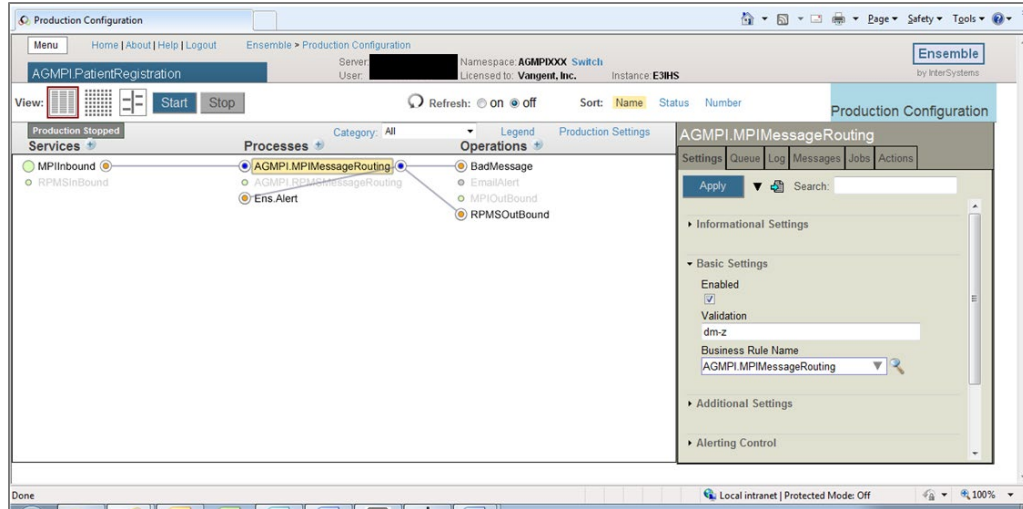

Figure 5-13: Graphic representation of the production instance on the **Production Configuration** page
9. The **Production Configuration** page displays a graphic representation of the production instance. The actual production instance may look slightly different from the example shown in Figure 5-13.